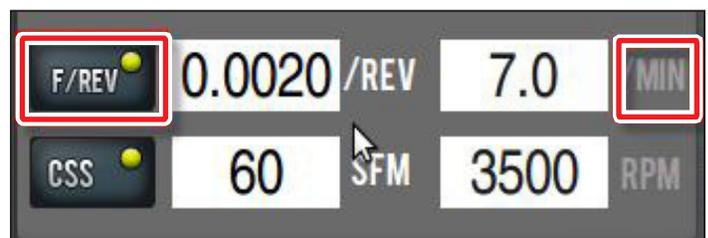

Figure 5.5
**F/REV, F/min DROs** – As described in the G-codes section, the 15L Slant-PRO recognizes two feed rate modes: units per minute (G94) and units per revolution (or REV) of spindle (G95) as shown in **Figure 5.5**. In units per minute feed rate mode, a G-code F word is interpreted to mean the controlled point should move at a certain number of inches or millimeters per minute, depending upon what length units are being used and which axis or axes are moving.
These settings are mutually exclusive. In other words, you cannot simultaneously be in both *F/Rev* and *F/Min* modes. The *F/Min* and *F/Rev* DROs display the current F word in both units/revolution and units/minute. The active mode is indicated by both the *F/Rev* LED and the */REV* and */MIN* labels next to the DROs. When *F/REV* is active, its LED illuminates, the *F/REV* label is white, and the *F/MIN* label is gray. You can turn on *F/REV* mode using any of the following methods (see **Figure 5.5**):